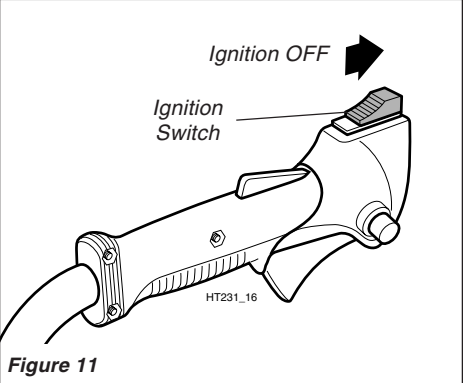

Figure 11
2. Move the ignition switch to the “O” or STOP position. See Figure 11.